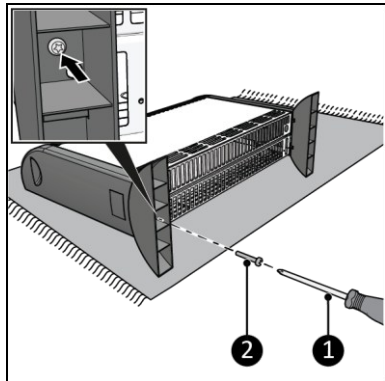

Figure 5
4. Screw and tighten the pedestals with the self-tapping screws (Figure 5, pos. 2) with a Phillips screwdriver (Figure 5, pos. 1).